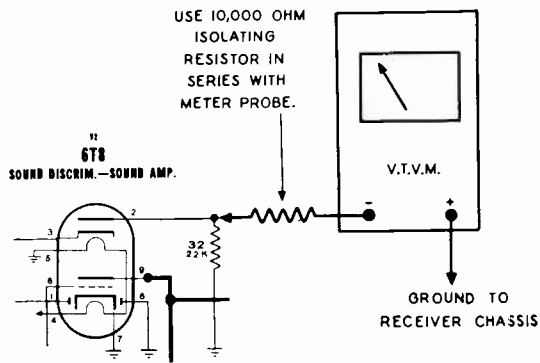

FIG. 3
21.75 Mc. L12 (Top of chassis as shown in Figure 3)
L 27	Top of chassis as shown in Fig. 3.
T 6	Top of chassis as shown in Fig. 3.
T 7	(Pri. Ratio Det) Top of chassis as shown in Fig. 3.
THIRD: Peak L22 (Top of chassis as shown in Fig. 3) for minimum output on the voltmeter.